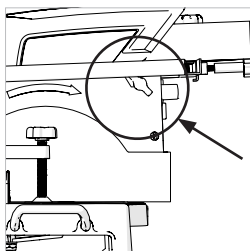

Fig. 23a
- Ensure that the table is at its lowest setting (**see Fig. 23a & 23b**)
1. Adjusting the Table Height (Fig. 23a & 23b)